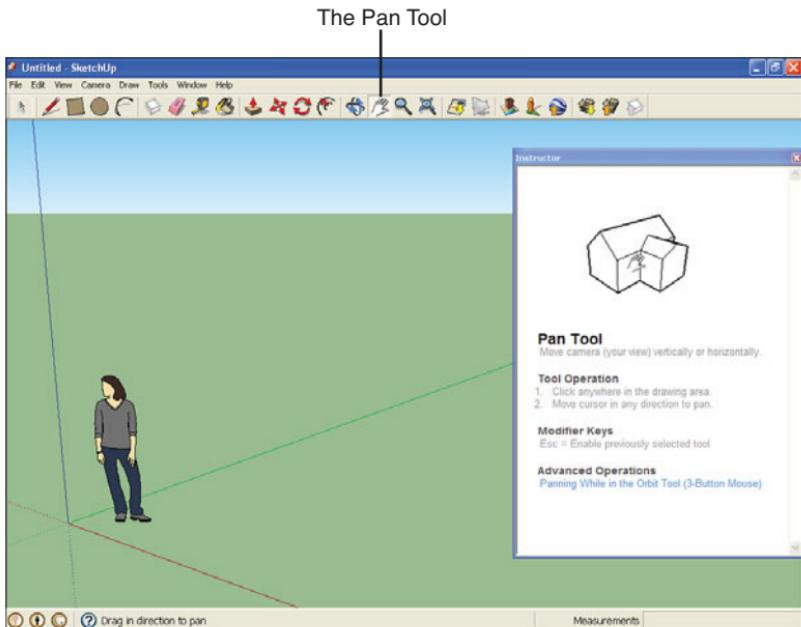

FIGURE 2.11 Using the Pan tool.
2. Click the **Pan** tool in the toolbar (shown in Figure 2.11).
4. Drag the mouse to move the display. When you do, the whole display moves around without changing angle or perspective, as you can see in Figure 2.11.